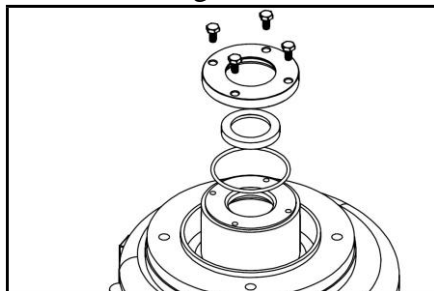
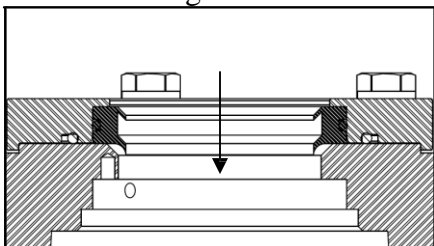

Figure 10
Figure 11
2. Install lip seal, gland, and the gland o-ring onto the casing if your LH pump has this option. See Figure 10. Note which way the lip(s) of the seal faces in Figure 11.